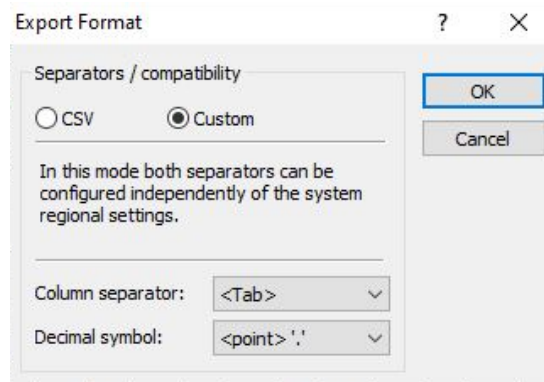

Figure 48. Export format details.
- Click on Format and make sure the following are selected (as shown in Figure 48):